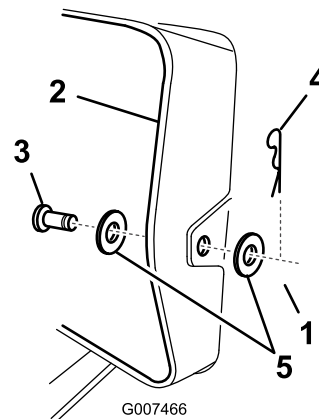

Figure 17
- Raise the grass collector and remove the hairpin, 2 washers, and clevis pin that secure the discharge tube to the rear plate (Figure 17).
- Raise the grass collector and remove the hairpin and clevis pin that secure the discharge tube to the rear plate (Figure 17).
13. Raise the grass collector and install the clevis pin and hairpin to secure the discharge tube to the rear plate (Figure 17).